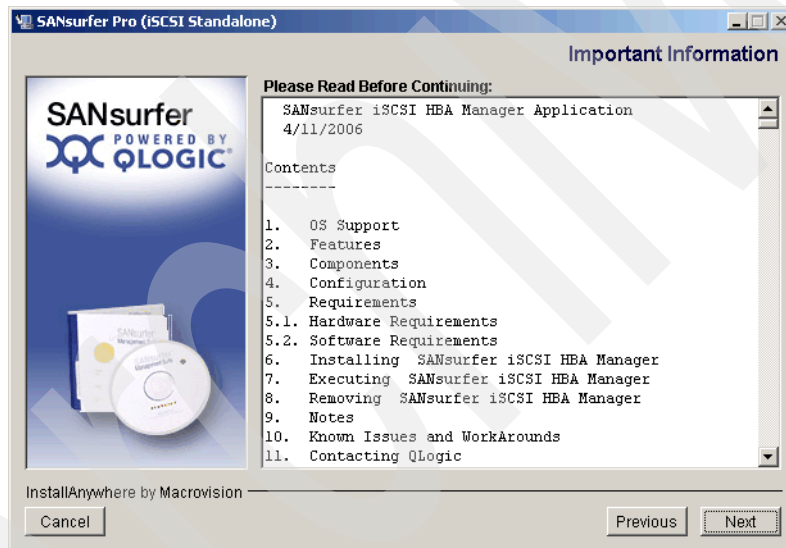

Figure 21-13 SANsurfer installation - Important information
6. Read the important information about SANsurfer and click **Next**. See Figure 21-13.